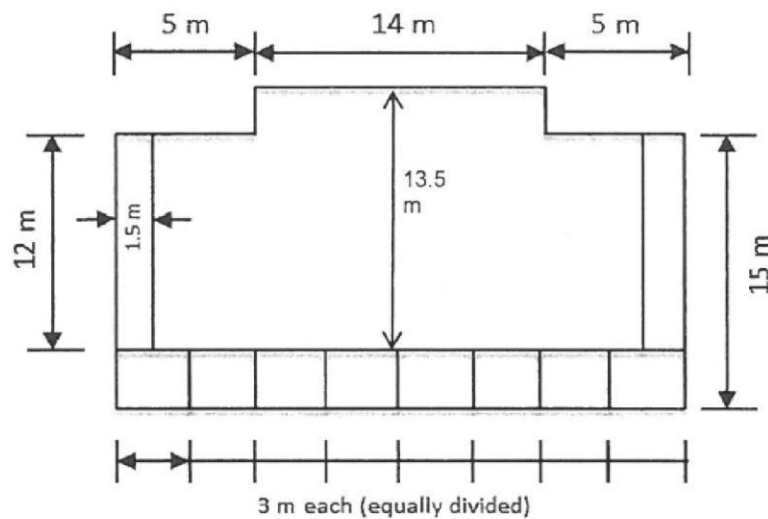

Figure 4
- b) The midship section of a vessel breadth 24 m and depth 15 m can be assumed as shown in Figure 4 below. If the vessel is subjected to a maximum bending moment at the neutral axis is 540 MNm, calculate the second moment of area, the position of neutral axis and the stress on the keel and the main deck. All the materials are steel and have a thickness of 15 mm.